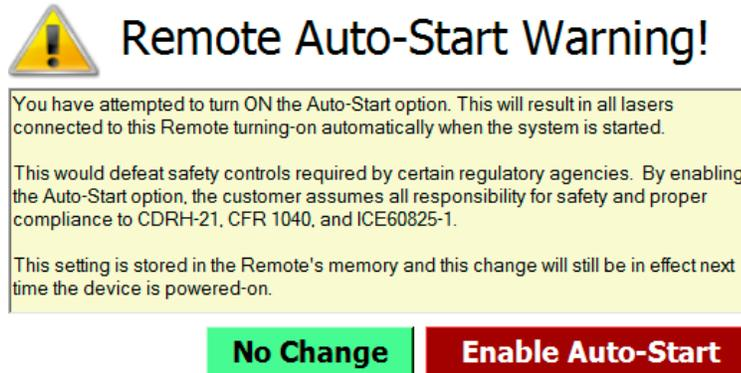

Figure 7-14. Coherent Connection–Auto-Start Warning
- If users then **select** the check box, a warning pop-up dialog box displays, shown in Figure 7-14. Read the warning, and then click either button to select **No Change** or **Enable Auto-Start**.